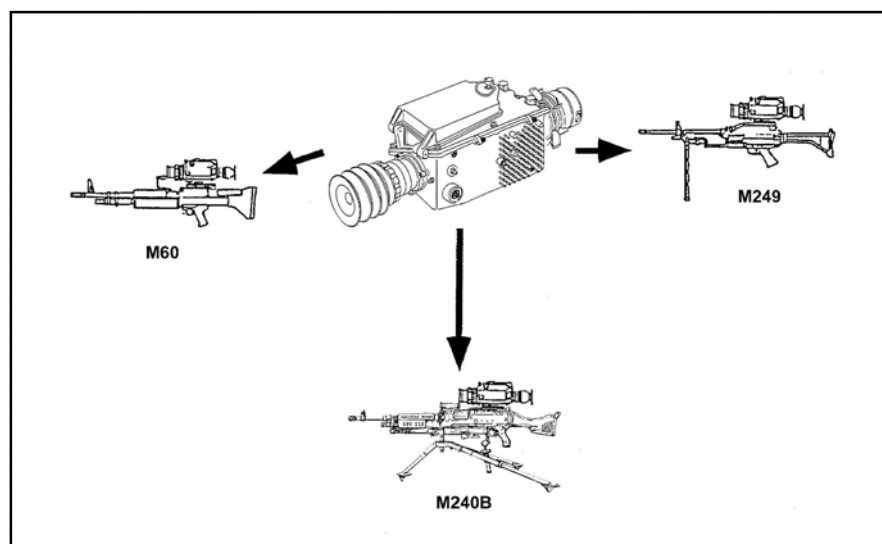

Figure G-23. Medium-weapon thermal sight.
b. **Basic Sensor.** The scanner reflects the IR light received from the telescope on the detective assembly. The detective assembly senses the IR light and converts it to video. The sensor's electronics condition the video for display on the LED array. The LED array illuminates the IR image along with the reticle. The light from the LED array is reflected off the scanner to form an image at the eyepiece. The only difference between the MWTS and the HWTS are the telescopes, which are different magnifications and hold different reticles. The basic sensor on the two models is the same. The MWTS fits the M249, M60, and the M240B machine gun. (Figure G-23).